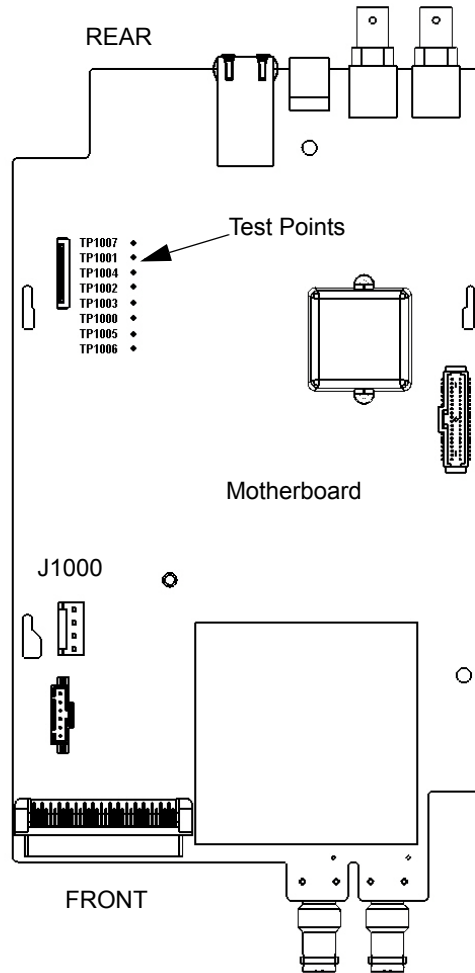

Figure 2-11. AC Power Supply Testpoint Locations on the Motherboard Assembly (Top View, internal battery removed, test points visible.)
- If the fan is operative, connect the negative lead of a voltmeter to the chassis and verify that the voltages in Table 2-6 below match the voltages measured at the test points on the Motherboard Assembly. See Figure 2-11 below for the test point locations, as viewed from the top of the counter.